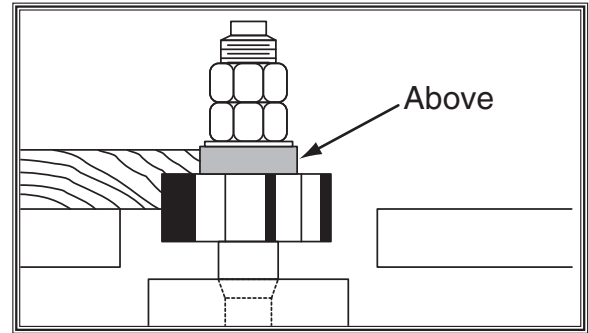

Figure 23. Rub collar mounted above cutter.
- **ABOVE THE CUTTER** as shown in **Figure 23**. This setup is the safest and produces the most consistent results.